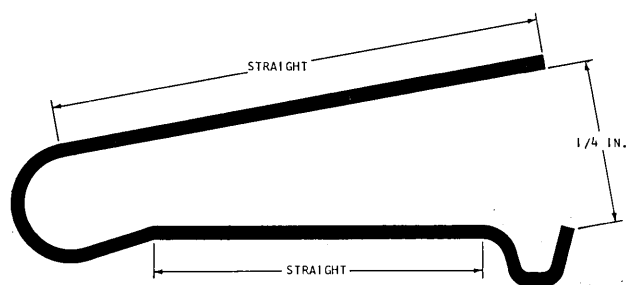

Figure 23. PM Relay Contact Wire
2. Check for corroded or burned contact wires. Check for proper contact wire configuration (Figure 23). Do not bend contact wires to meet requirements. Discard faulty contact wire and install new part.
1. Check new contact wires for correct configuration (Figure 23).